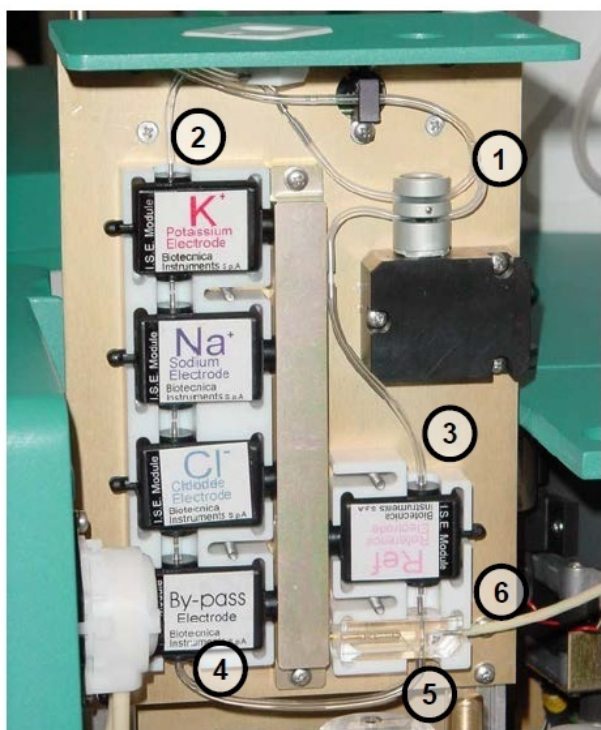

Figure 8
2. Disconnect the tubes **2, 3, 4, 5** and **6** (**Figure 8**) from the electrodes. Remove the housing containing measurement electrodes (K, Na, Cl, By-pass or CO₂) by gently moving leftwards (**Figure 8**). Remove the housing containing Reference and Ground electrodes by carefully moving it rightwards. Keep these housings in vertical position when electrodes are present.
- c) At the end of this operation, release **tube 6 (Figure 8)** from the peristaltic pump and remove the tubes 1 from the valve to avoid sticking and collapsing of tubes.
NOTE: In case the ISE module has the **Cl** and **CO₂** electrodes, then also disconnect the tube 2 connected to **K** electrode (see **Figure 8**).